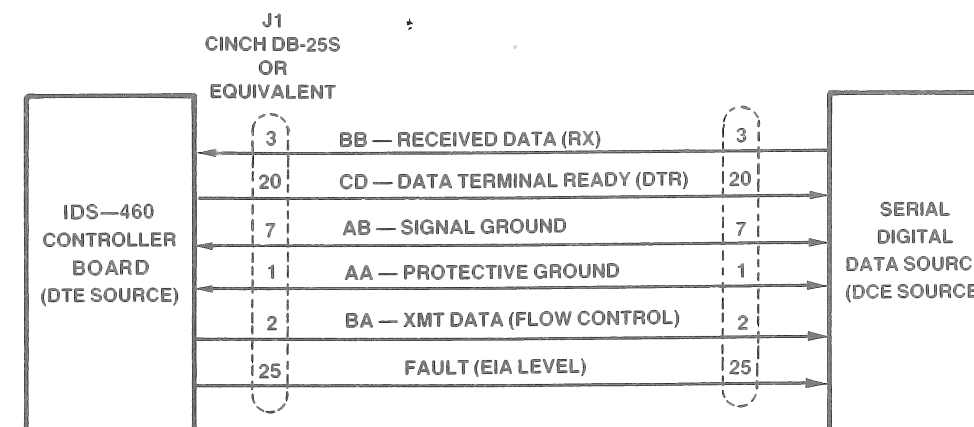

Figure 2-5
A user supplied 25-pin female RS-232-C compatible connector can also be used to construct interface cabling. Refer to Figures 2-3, 2-4 and Appendix A for parallel interface cabling. Figures 2-5 and 2-6 show the serial interface cabling.
2.3.2.2 Serial EIA RS-232-C Interface. Figure 2-5 shows the cabling connections for a serial EIA interface. It is normally configured with the printer as the DTE (Data Terminal Equipment) source, accepting serial Received Data from the DCE (Data Communications Equipment) source. The printer uses Data Terminal Ready (DTR) to control the flow of received data to prevent data overflow conditions. This is accomplished by dropping DTR whenever the printer buffer is nearly filled, temporarily inhibiting Received Data flow until the buffer is able to accept additional data.